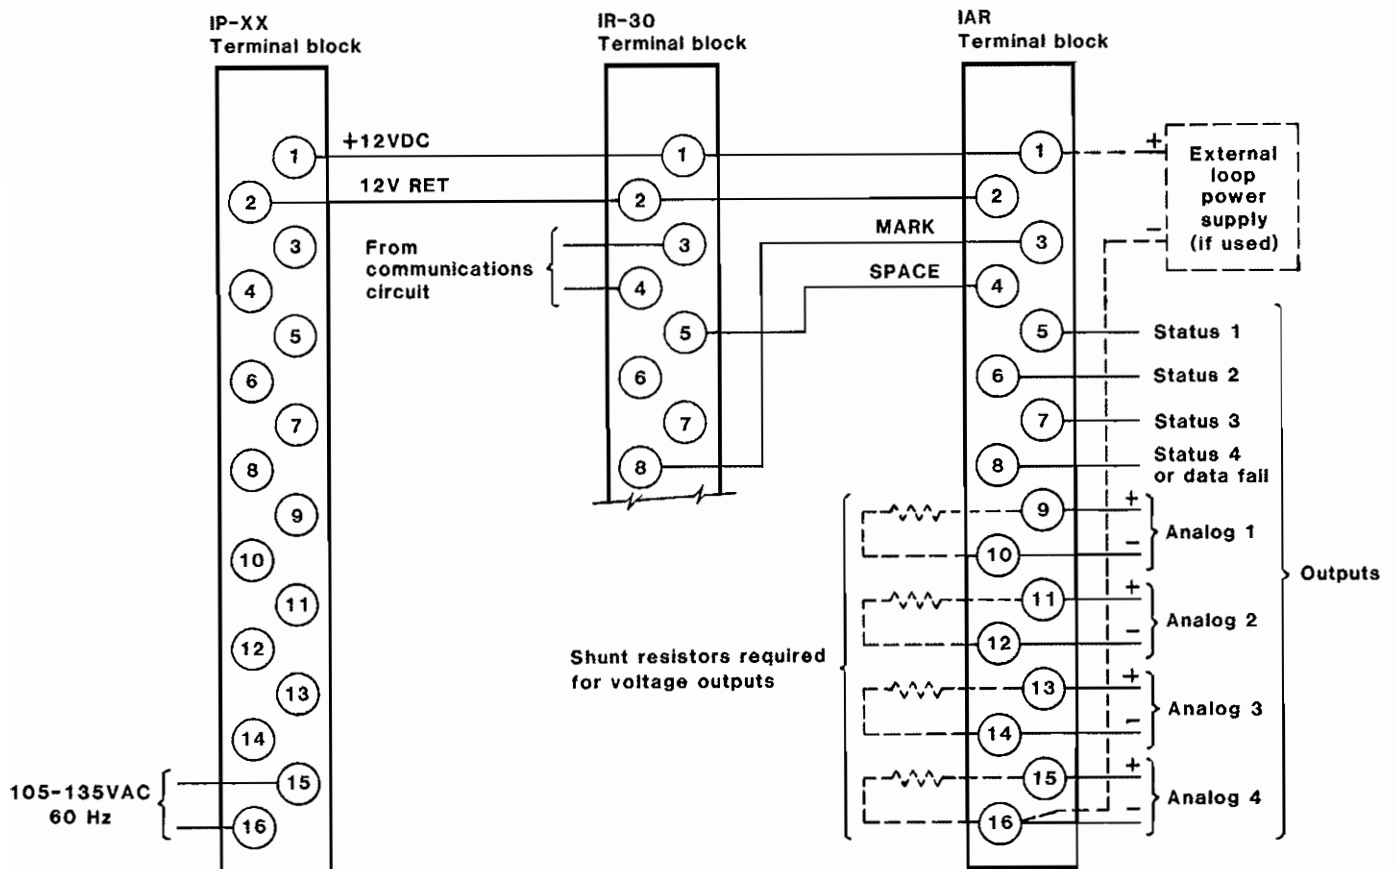

Figure 4. Electrical Installation
5.5 **Electrical Installation.** All electrical connections are made to the terminal block at the rear of the frame (see Figure 4 and Table 5-1).
5.6 **12-Volt Power Supply.** If a separate 12-volt power supply is used in place of the IP-XX, negative of the 12-volt supply must be common to terminal 2 of the IAR as shown in Figure 4.
supply to terminal 1 and the negative to terminal 16 as shown in Figure 4. Loop compliance is 2 volts less than the power supply voltage.